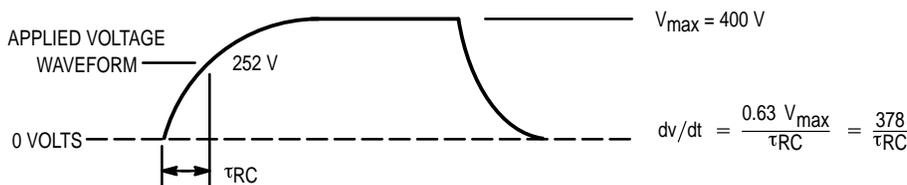

Figure 7. Static dv/dt Test Circuit
3. This is static dv/dt. See Figure 7 for test circuit. Commutating dv/dt is a function of the load-driving thyristor(s) only.